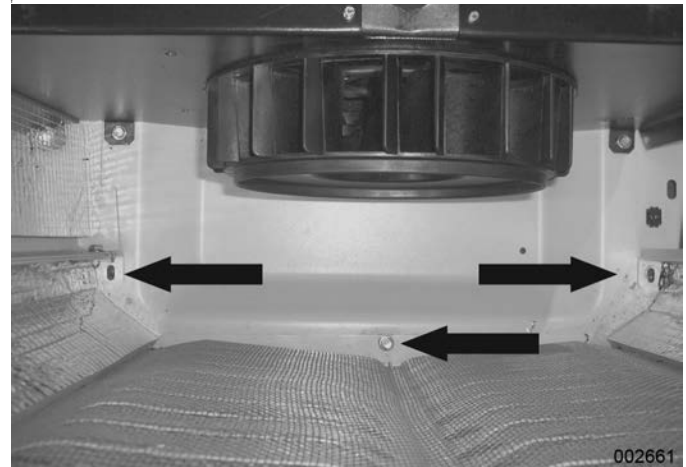

Figure 6-28.
6. **Remove Left-side enclosure:** See Figure 6-28. Use a 10mm ratchet wrench to remove the horizontal 10mm bolt that connects the side panel to the back panel. Use a 10mm socket to remove three bolts from the base of the enclosure.